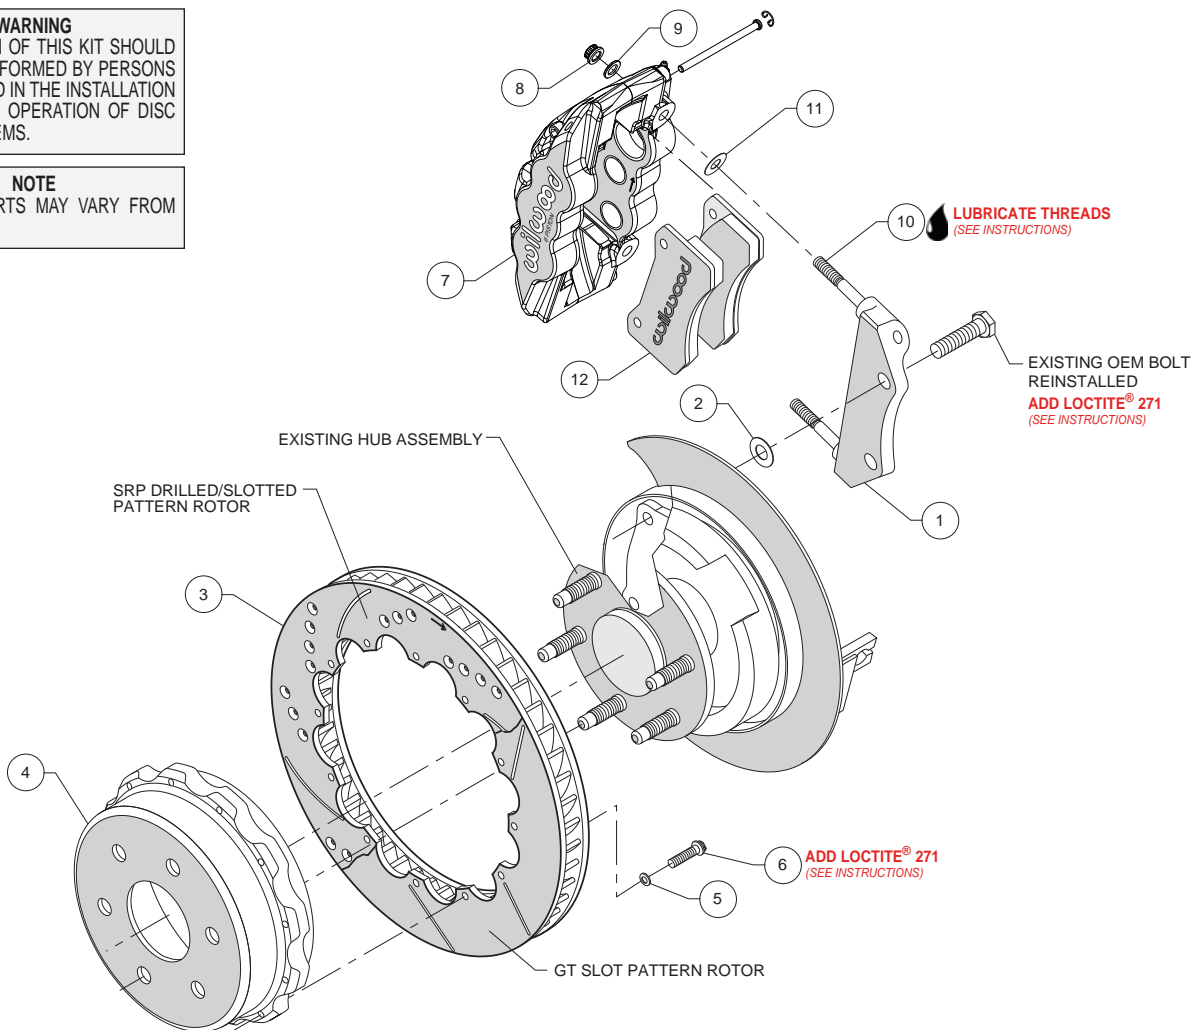
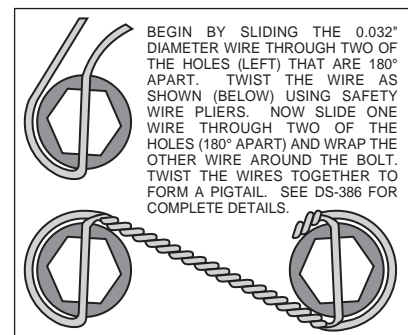

Figure 1. Typical Installation Configuration
Figure 3. Safety Wire Diagram
(numbers in parenthesis refer to the parts list and Figure 1 on the preceding page):
- With the larger I.D. side of the rotor (3) facing away from the hat (4), bolt rotor (3) to hat (4) through the backside of the rotor using washers (5) and bolts (6). Using an alternating sequence, apply red *Loctite*® 271 to the threads and torque bolts to 140 in-lb. Bolts must be safety wired using standard 0.032 inch diameter stainless steel safety wire as shown in Figure 3. Please refer to Wilwood's data sheet DS-386 (available at www.wilwood.com/Pdf/DataSheets/ds386.pdf) for complete safety wire installation instructions.
- Install one shim (11) over each stud (10) on the radial mount bracket (1). Slide the caliper (7) in place over the studs and rotor and install the washer (9) and lock nut (8) to hold the caliper in place. The caliper bleed screws should be pointing up. Snug the lock nuts (8) and check that the rotor (3) is centered in the caliper (7). Add or subtract .029" shims (2) as necessary between the caliper mount bracket (1) and the caliper mount bosses on the upright assembly to center the caliper (7).
- Remove the two pad retaining pins from the caliper (7) by carefully popping out the pin retaining clips and sliding out the pins. Insert the brake pads (12) into the caliper from the bottom, Figure 1. With the friction material facing the rotor, secure the brake pads in place with the pad retaining pins and clips. Reinstall the caliper onto the caliper mounting bracket and temporarily tighten the lock nuts. Check that the top of the brake pad is flush with the outside diameter of the rotor. If not, adjust by adding or subtracting shims (11) between the caliper and the bracket.
- Adjust the parking brake shoes outward (using a drum shoe adjustment tool available at your local auto parts store) while spinning the hat (4) until a slight drag is felt against the hat/drum.
- Once all clearances have been checked, remove the wheel, caliper and rotor from the axle flange. Secure the caliper mounting bracket (1) to the upright using red *Loctite*® 271 on the bolt threads. Torque the bolts to manufacturer's specifications. Reinstall the rotor and again use several lug nuts to hold it in place. Lubricate caliper mounting studs and nuts with lightweight oil, reinstall the caliper, torque the caliper nuts (8) to 47 ft-lbs.